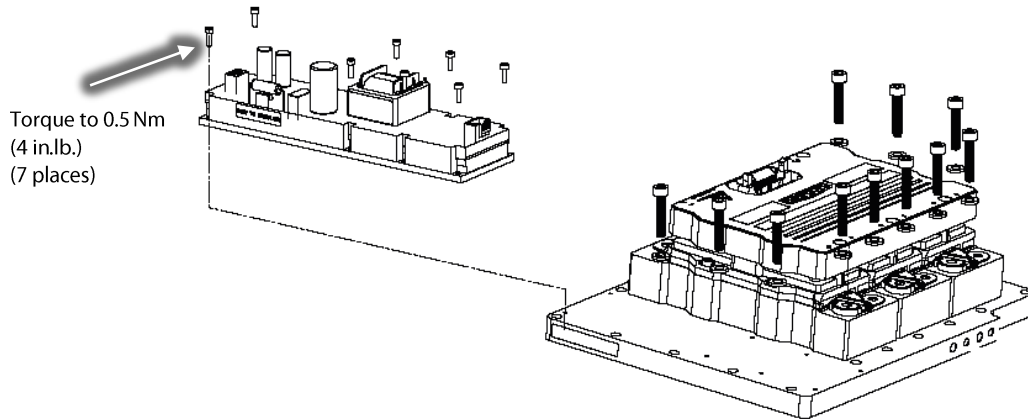

Figure 20 – DC-DC Removal
32. Remove the HV DC-DC from the Inverter cooling manifold if it is to be reused. Refer to Figure 20 (DC-DC Removal).
13. Reinstall the HV DC-DC converter to the Inverter cooling manifold and torque to specification. Refer to Figure 20 (DC-DC Removal).